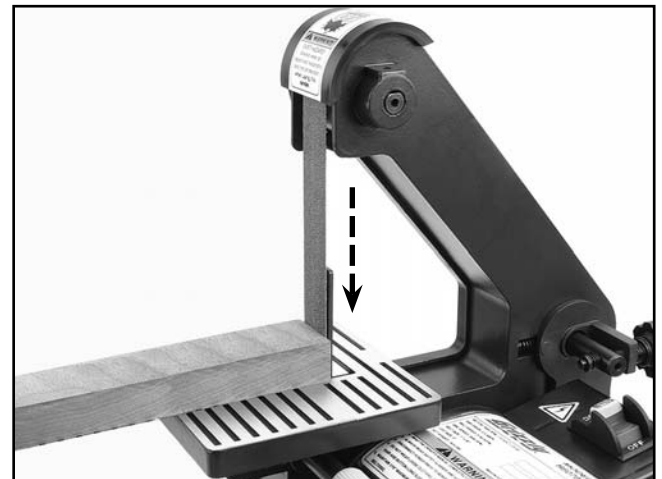

Figure 27. Belt rotation and workpiece position.
3. Turn the sander ON, and slowly feed the workpiece into the sanding belt, as shown in **Figure 27**, so the workpiece does not chatter or vibrate.